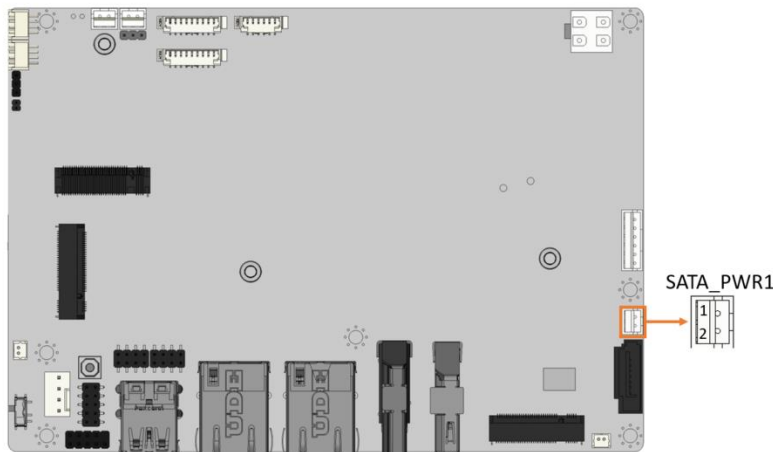

Figure 3-14: SATA Power Connector Location
- CN Location:** See **Figure 3-14**